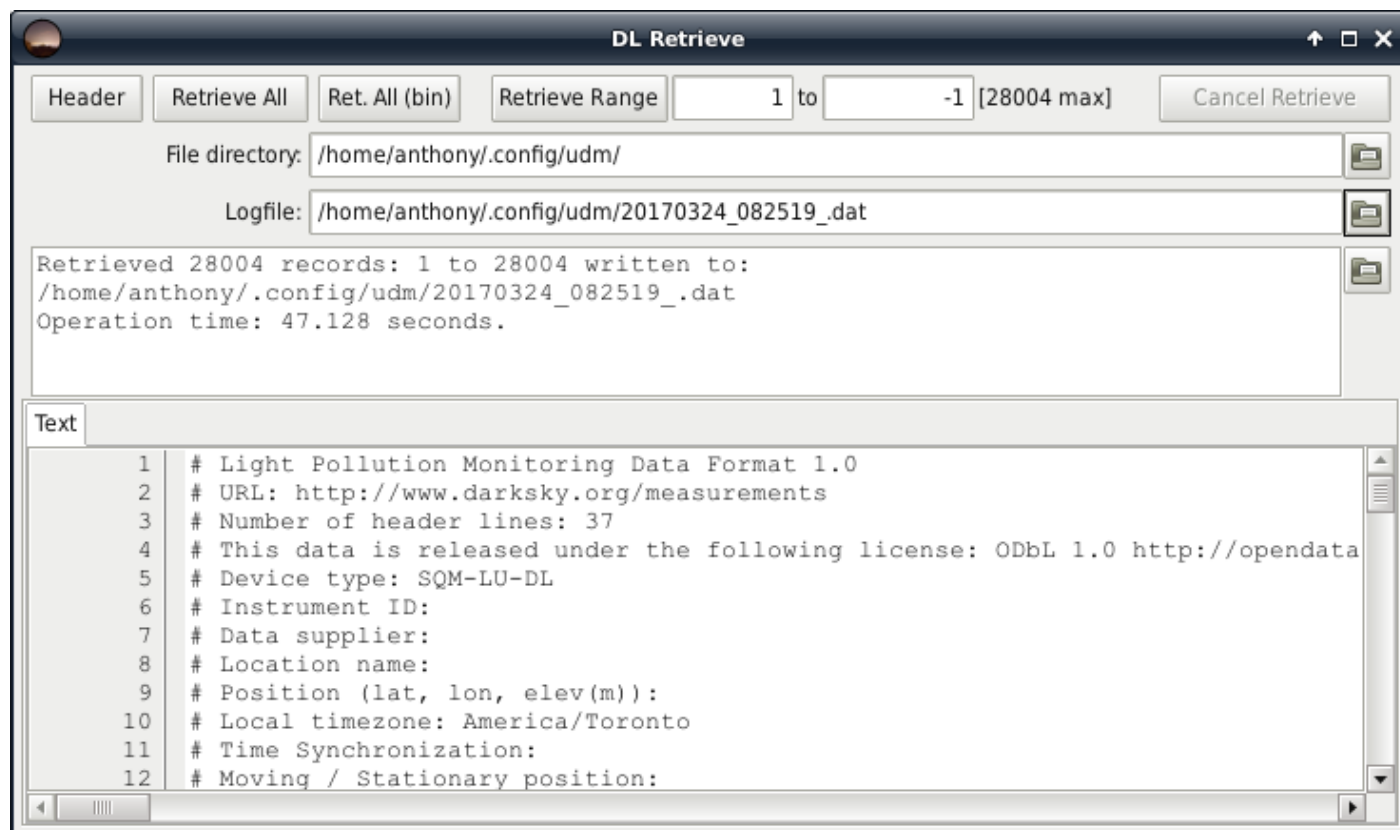

Figure 7.50: DL Retrieve dialog window
**Retrieve** Press the “Retrieve” button to call up the “Retrieve” dialog shown in Figure 7.50.